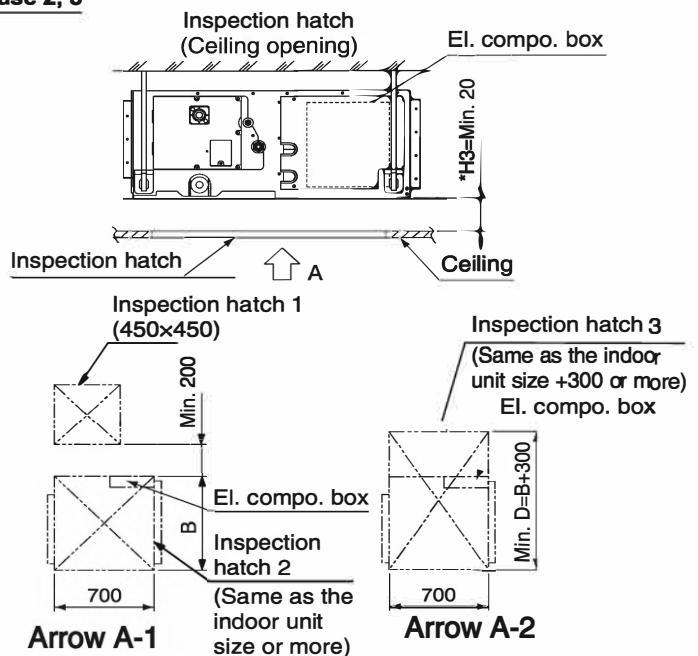

Fig. 2-3
- Inspection hatch 1 (450 x 450) on the control box side and inspection hatch 2 on the bottom of the product. (Fig. 2-3, arrow A-1)
- Inspection hatch 3 on the bottom of the product and on the bottom side of the control box, see direction view A-2 (Refer Fig. 2-3)